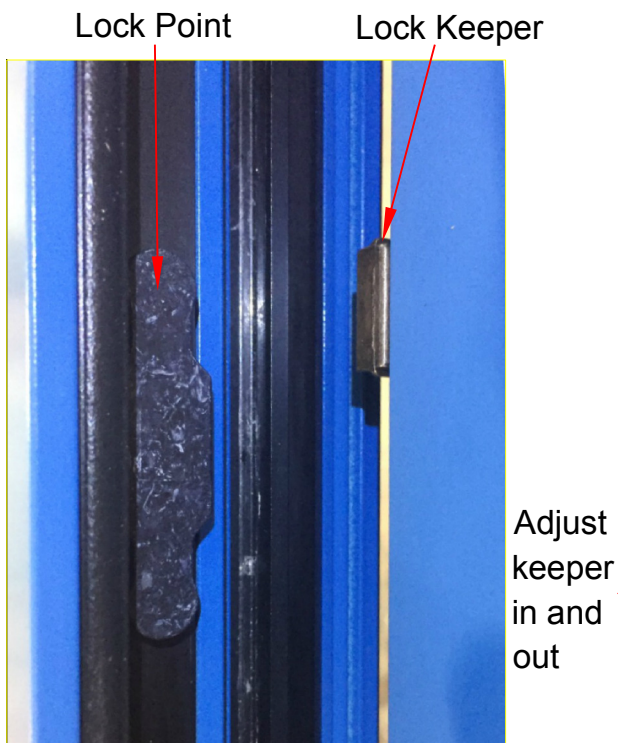

Figure 17
- B. Check the alignment of the lock points, by opening the door, engage the locks (lift handle up), almost close the door, and the lock points should align with the keepers (See figure 17).